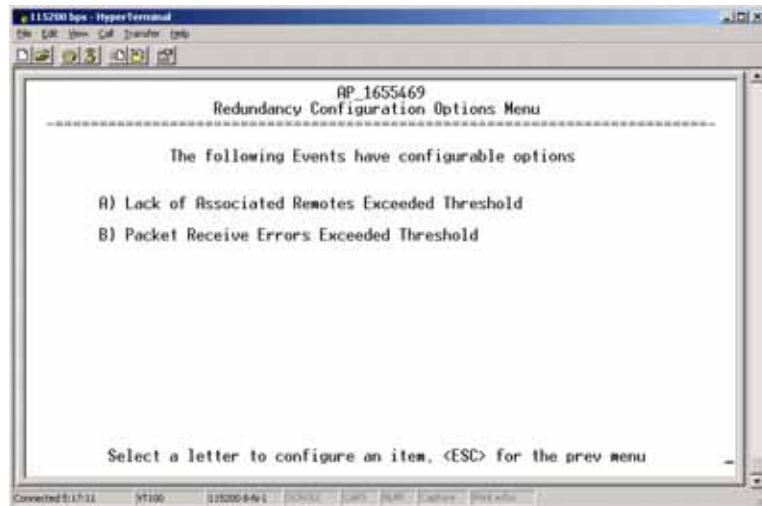

Figure 3-74. Redundancy Configuration Options Menu
- **Redundancy Configuration Options**—This selection opens a submenu (Figure 3-74 on Page 104) where you can set the threshold criteria for declaring an error event.
Use this menu (Figure 3-74) to set the thresholds for the Lack of Associated Remotes and Packet Receive Errors. Selecting either item opens a submenu where you can view or change settings.